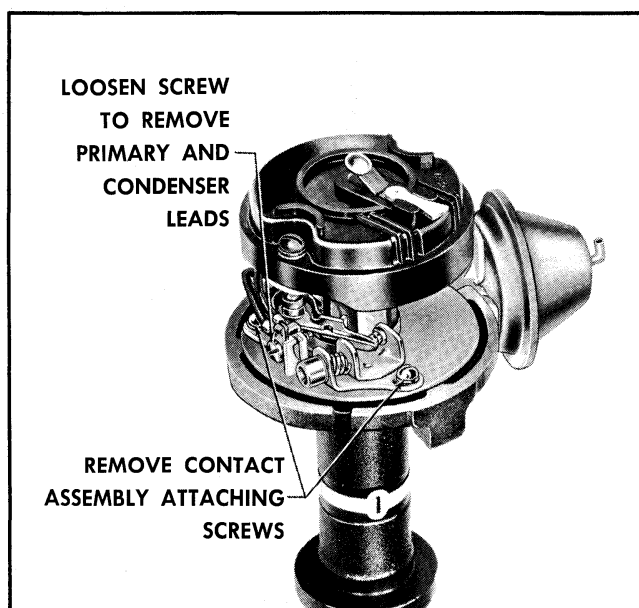

Fig. 11-56 Distributor Contact Details
1. Remove two attaching screws (Fig. 11-56) which hold base of contact set assembly in place.
2. Remove condenser lead and primary lead from nylon insulated connection by turning screw (Fig. 11-56) in contact set.